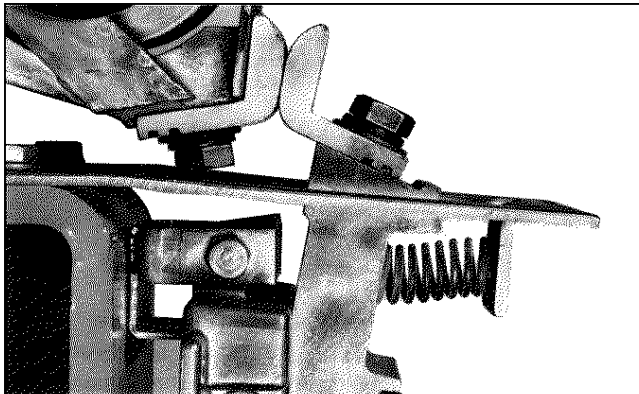
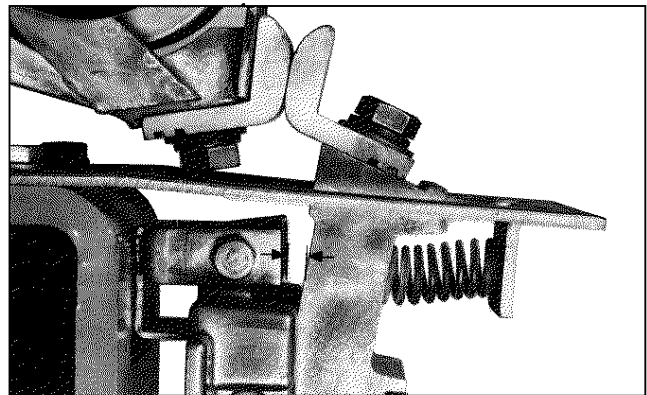

Figure 2
Figure 4
2. Check that the slot in the movable contact tip is engaged in the ridge located on the auxiliary arm (14) (Fig. 2). For worn contact tips refer to MAINTENANCE—Contact Tip Inspection instructions in this Service Bulletin.
3. Check that the stationary contact tip is against the stationary contact support seat or the blowout coil guard (3) (Fig. 2).
4. Check that the contact tip surfaces are aligned both vertically and horizontally (Fig. 2).
The contact tips should be replaced when the contact follow-up is less than 1/16" (Fig. 4). The movable contact tip can be adjusted for additional tip life by repositioning it as shown (Fig. 4). Align the contact tip to meet squarely by the procedure in the ADJUSTMENT—Contact Tip Alignment instructions in this Service Bulletin using (Fig. 4) instead of (Fig. 2) for reference.